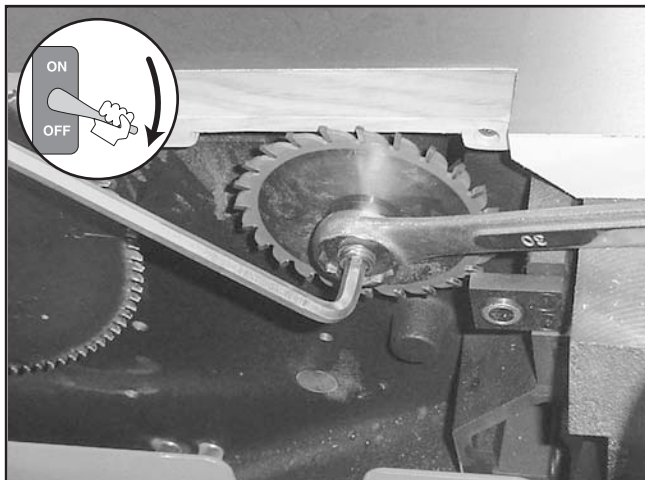

Figure 38. Removing the scoring blade.
29. Use both arbor wrenches, as shown in **Figure 38**, to verify that the scoring blade arbor nut is tight. (The scoring blade arbor nut has right-hand threads and tightens clockwise.)